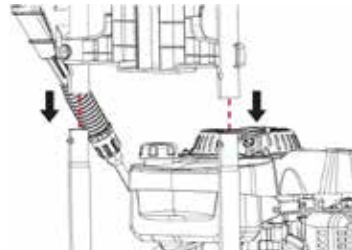

Fig. 2
**Install Handle (See fig 2)**